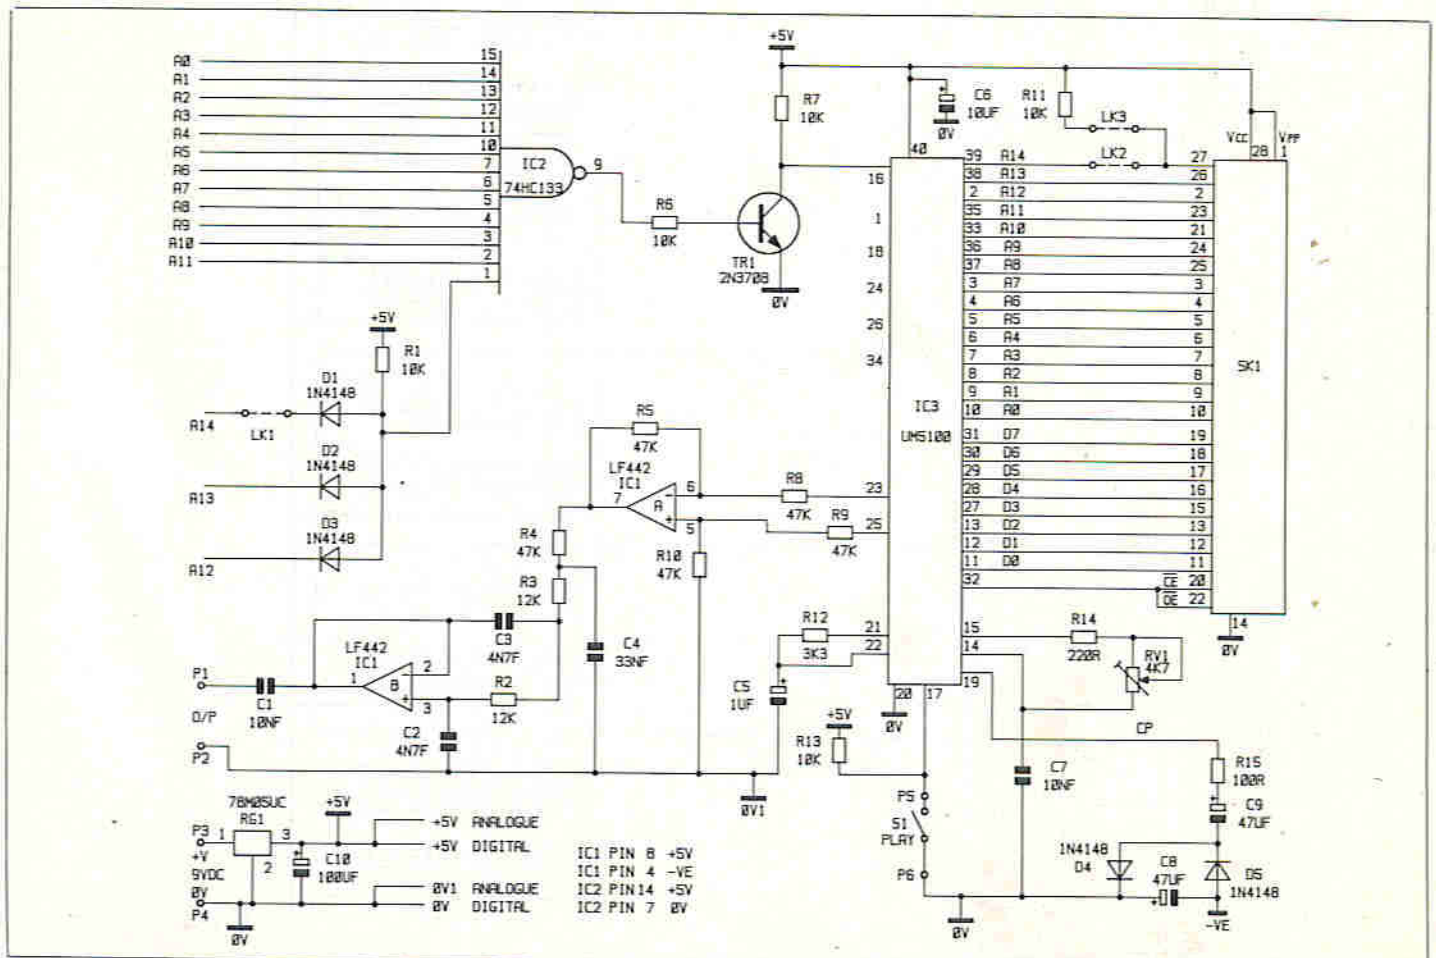

Figure 2. Circuit diagram of Playback Module.
The circuit shown in Figure 1, at first glance seems quite complex, but in reality it is fairly simple. Connection to the playback module is via PL1, IDC cable and CN1. PL1 is a 28 pin DIL header plug, this plugs into SK 1 on the playback module, see Figure 2 for the circuit of the playback module. Pins 1 and 28 are connected to +5V and since the expansion module has its own localized +5V supply, no connection to these pins is made. This allows use of 26 way IDC cable and a 26 way IDC transition header (CN1). All the other pins are connected, these carry address and data information, A14 to A0 and D7 to D0 respectively, device control signals OE and CE, and last but not least the 0V line. These lines with the exception of the device control signals are 'bussed' to EPROM sockets SK 1 to SK 8, so the sockets are effectively wired in parallel. Only one EPROM is allowed to place information on the data bus at a time, this is achieved using the device control pins 22 and 20 (OE and CE) on SK 1 to SK 8. Pins 1 and 28 (V_{pp} and V_{cc}) are connected to the +5V line, and pin 14 (0V) to the 0V line. IC2, a 74HC137, is a 3 to 8 line decoder/demultiplexer and latch, this device is used to select the required EPROM. A 3 bit binary word is applied to pins 1, 2 and 3 (A0 to A2), and a low to high transition on pin 4 (LE) causes the binary address on A0 to A2 to be latched. The output from the latch is fed to the decoder/demultiplexer, where the binary input is decoded to a 1 of 8 octal output on pins 15, 14, 13, 12, 11, 10, 9 and 7 (Y0 to Y7), these outputs are fed to the OE and CE pins on SK 1 to SK 8. The outputs are